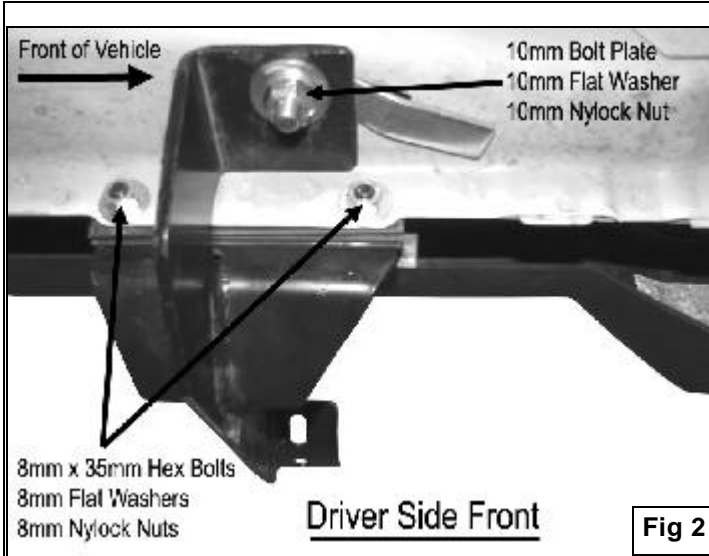

Fig 2
- Partially hang driver side front Mounting Bracket to already inserted Bolt Plate using the included (1) 10mm Nylock Nut and (1) 10mm Flat Washer to secure it **(Figure 2)**.
- Attach Mounting Bracket to pinch weld using the included (2) 8-1.25mm x 25mm Hex Head Bolts, (2) 8mm Nylock Nuts, and (4) 8mm Flat Washers **(Figure 2)**. Do not tighten at this time. **NOTE:** Depending upon the vehicle, the front of the Sidebar might make contact with front factory flares. If so, place one, two, or three of the Fit Adjustment Spacers on the outside of the pinch weld between the Mounting Bracket and the pinch weld as needed **(Figure 4)**.